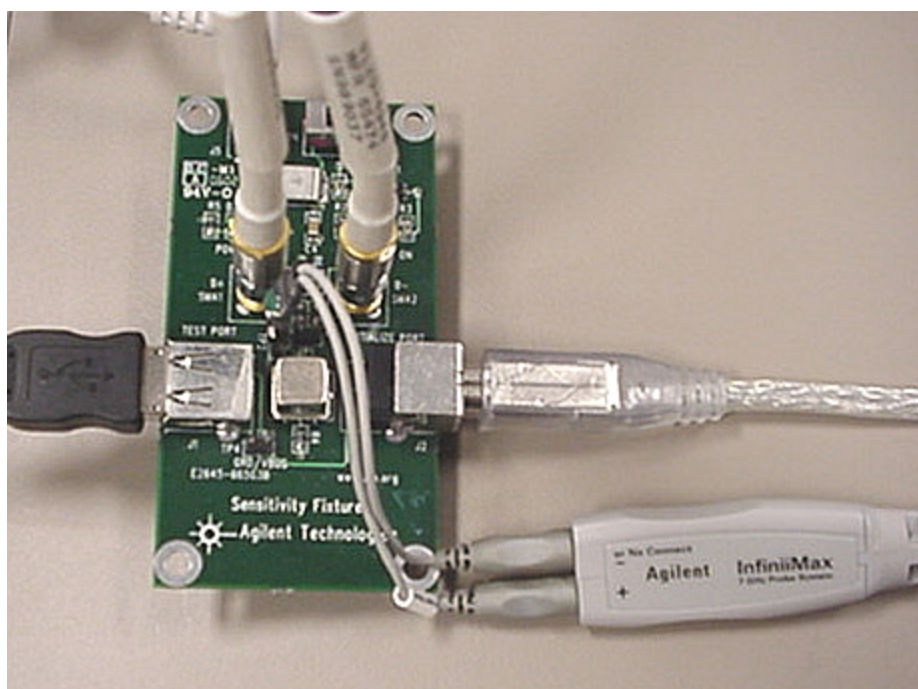

Figure 28. Probe Connection for Sensitivity Test
4. Connect the differential probe to the test fixture at TP2, using the header adapter as shown in Figure 28.